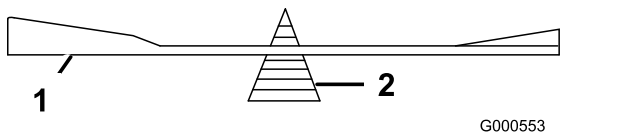

Figure 71
2. Check the balance of the blade by putting it on a blade balancer (Figure 71).